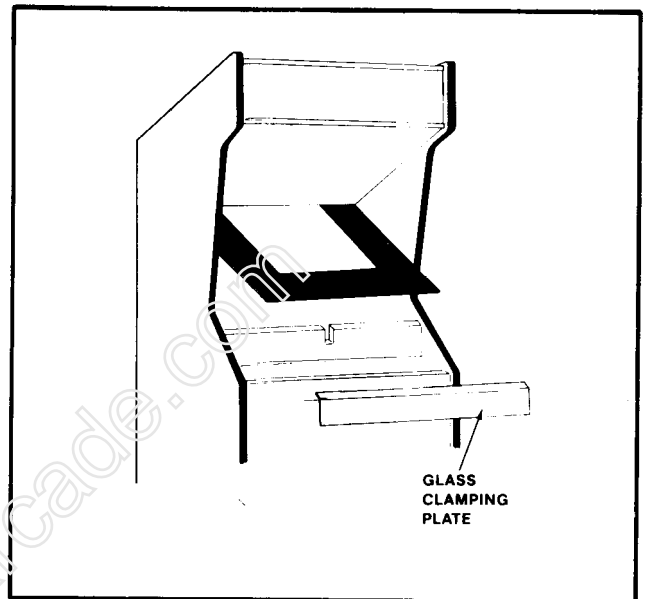

Figure 2-52 Removing Glass Clamping Plate
- Turn the power to the game off and remove the screws which secure the glass clamping plate in position. See Figure 2-52.